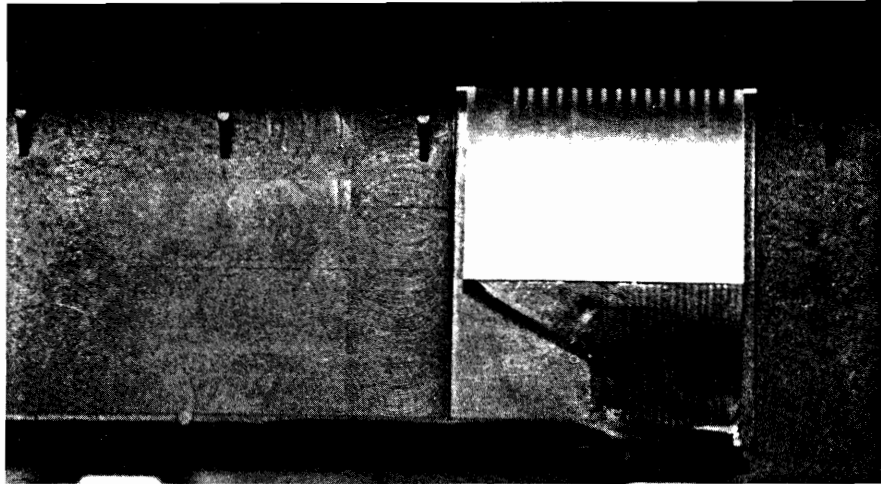

Figure 7-13C. Print Head Assembly Connector
8. Unplug the connector end of the print head assembly. (See figure 7-13C.)
9. With the insulated side up, install the flex cable into TPM PCA connector (slot in TPM mainframe). Ensure that the flex cable is seated fully into the TPM PCA Connector and that the contacts of the print head cable assembly are aligned with the contacts on the TPM PCA. To be sure of a perfect alignment, turn the TPM upside down to view the connection pin assignment. (See figure 7-13C.)